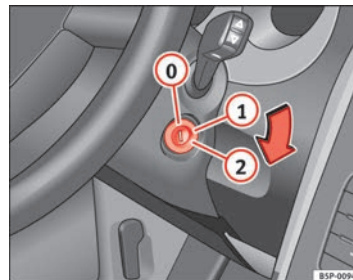

Fig. 135 Ignition key positions
In this position ⇒ Fig. 135 the ignition and the engine are OFF and the steering may get locked.
- Turn the ignition key to position ⇒ Fig. 135 ①. The warning lamp  will light for engine pre-heating.
- When the lamp turns off, turn the ignition key to position ② to start the engine. Do not press the accelerator.
- Turn the ignition key to position ⇒ Fig. 135 ①.